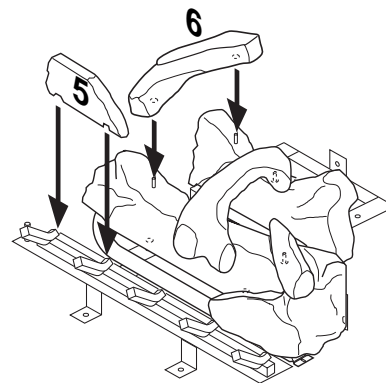

Figure 48 - Installing Logs No. 5 and No. 6
- Place log #5 (base log) onto the front left part of the grate making sure the notches fit over the prongs of the grate). See Figure 48.
- Place log #6 (left log) onto two pins on the left side of back and front log. See Figure 48.